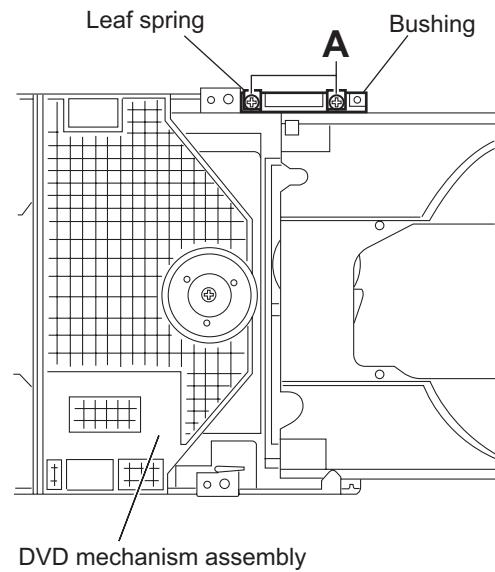

Fig.2
- From the top side of the DVD mechanism assembly, remove the two screws **A** attaching the leaf spring to the bushing and remove the leaf spring. (See Fig.2.)